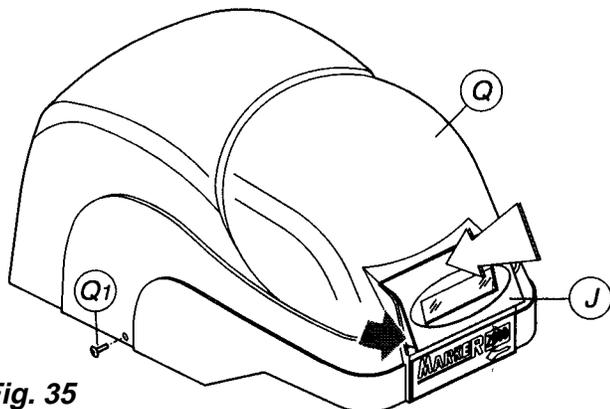

Fig. 35
2. Raise and remove the top cover (Q) (see ch 8.4), disconnect the connector (B1) and fasten (B2) from the display.
3. The masking cover (J) may be removed by prying at the edges until the plastic snaps come free (Fig 35).